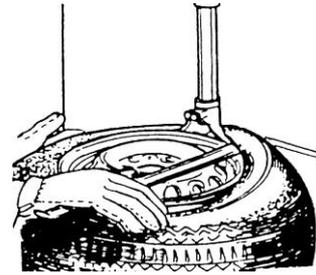

Fig 8
- 3) Insert the lifting lever between the tyre bead and the front section of the mounting head, and move the tyre above the mounting head shown as Fig 8.
**Note:** In order not to damage the inner tube, it is recommended to perform this step with the inner tube valve stem positioned about 10 cm to the right of the mounting head. With the lifting lever held in position shown as Fig 8, rotate the turntable in a clockwise direction by fully depressing the reverse pedal. Continue until the tyre is completely separated from the wheel rim.
**Note:** The tyre can be slid out easily from the mounting head due to hardness. In order to prevent it, with the lifting lever held in position shown as Fig 8, rotate the turntable about 1~2 cm in anti-clockwise direction before rotating in clockwise direction.